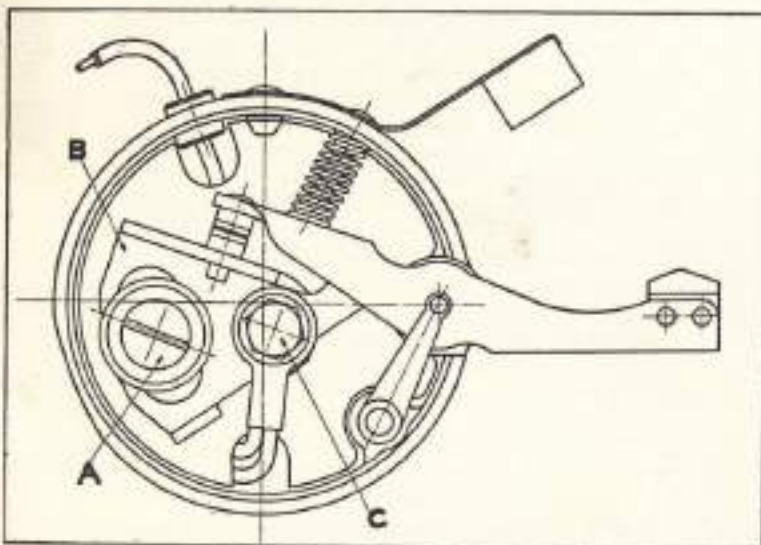

FIG. 34.
To adjust the contact breaker the flywheel should be turned to the "points open" position. Two screws are visible in the contact breaker box, and the one with a saw slot (A) for a screwdriver is the clamp screw that holds the point plate (B) to the box itself (Fig. 34). Screw this back about half a turn with the special screwdriver spanner provided, then using this, or if preferred, a larger screwdriver, the point bracket can be levered to the correct position, using the gauge riveted to the screwdriver to get this gap correct. This gauge is .015" thick and should be a slide fit between the points when the gap is correct.